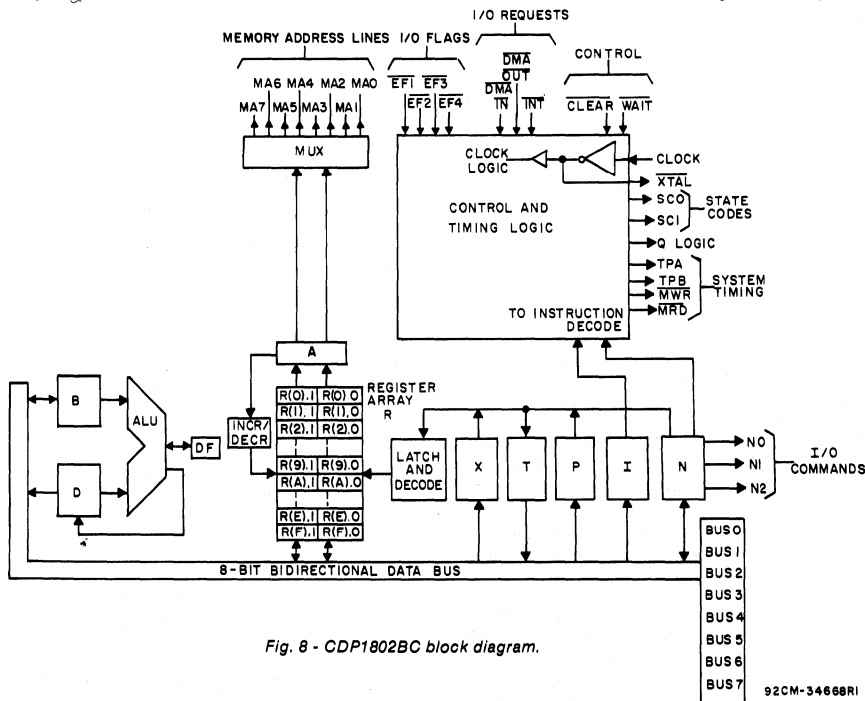

Fig. 8 - CDP1802BC block diagram.
The CPU block diagram is shown in Fig. 8. The principal feature of this system is a register array (R) consisting of sixteen 16-bit scratchpad registers. Individual registers in the array (R) are designated (selected) by a 4-bit binary code from one of the 4-bit registers labeled N, P, and X. The contents of any register can be directed to any one of the following three paths: